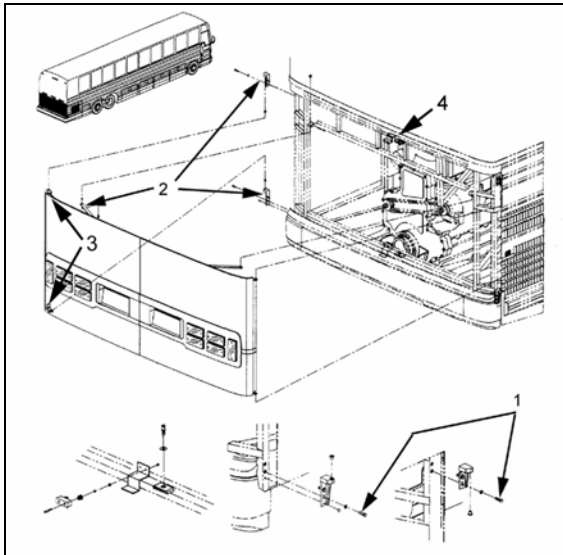

FIGURE 41: ENGINE COMPARTMENT DOORS
1. Loosen the bolts, (1, 2 Fig. 41) holding the hinge to the vehicle structure to shift the door "UP or DOWN".
2. Loosening the bolts (3, Fig. 41) allows the door to be shifted "LEFT or RIGHT" and "IN or OUT".
To adjust the latch mechanism (4, Fig. 41) and the striker pin: